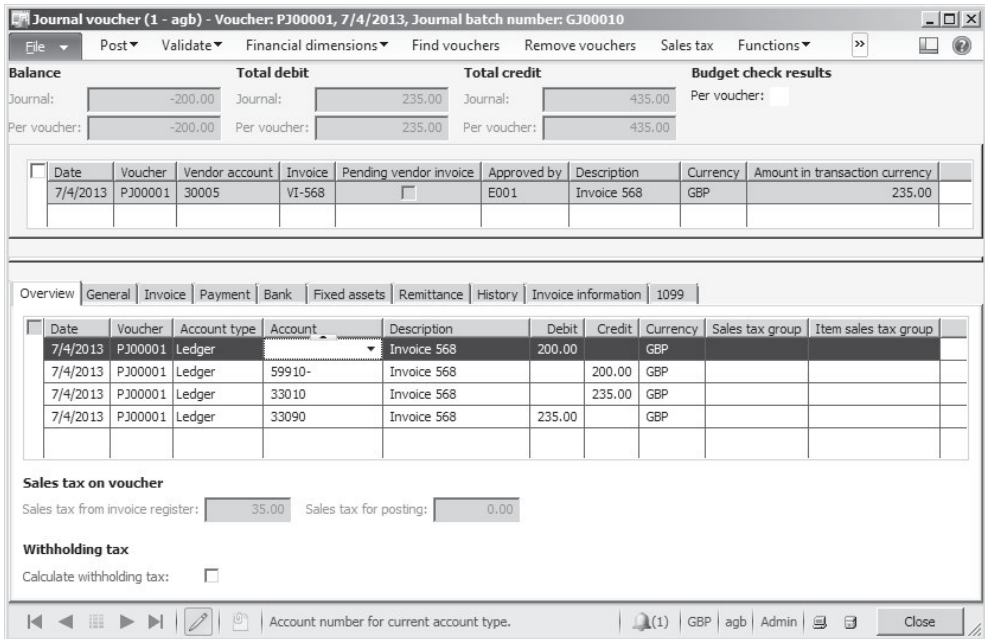

Figure 9-16: The invoice approval journal lines after fetching an invoice register
- **Not related to a purchase order** – In this case, select a ledger account – e.g. an expense account – in the lower pane of the invoice approval journal lines (first line in the lower pane of Figure 9-16). The expense amount does not include sales tax. If multiple expense accounts apply, enter several lines sharing the total amount. In order to finally post the approval, click the button *Post/Post*.